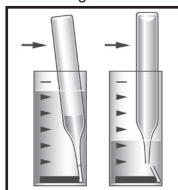

Figure 3
4. **Immediately** place the Vacu-vial ampoule, tip first, into the sample cup. Stir briefly to mix the contents of the cup, then snap the tip. The ampoule will fill leaving a bubble (fig. 3).